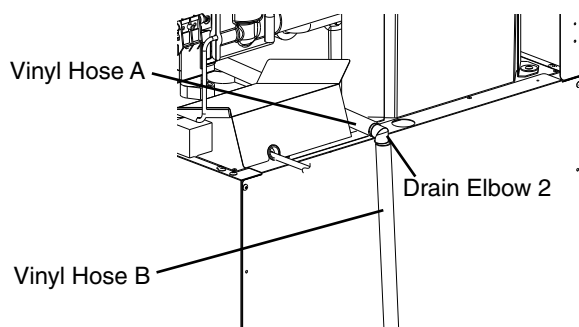

Fig. 8
10) Connect one end vinyl hose A (68 in. (1727 mm)) to the open end of drain elbow 2. See Fig. 8. Place the other end of vinyl hose B (68 in. (1727 mm)) into the heated overflow drain pan assembly as shown in Fig. 9. **NOTICE! Be sure vinyl hose B is properly positioned on drain elbow 2.**